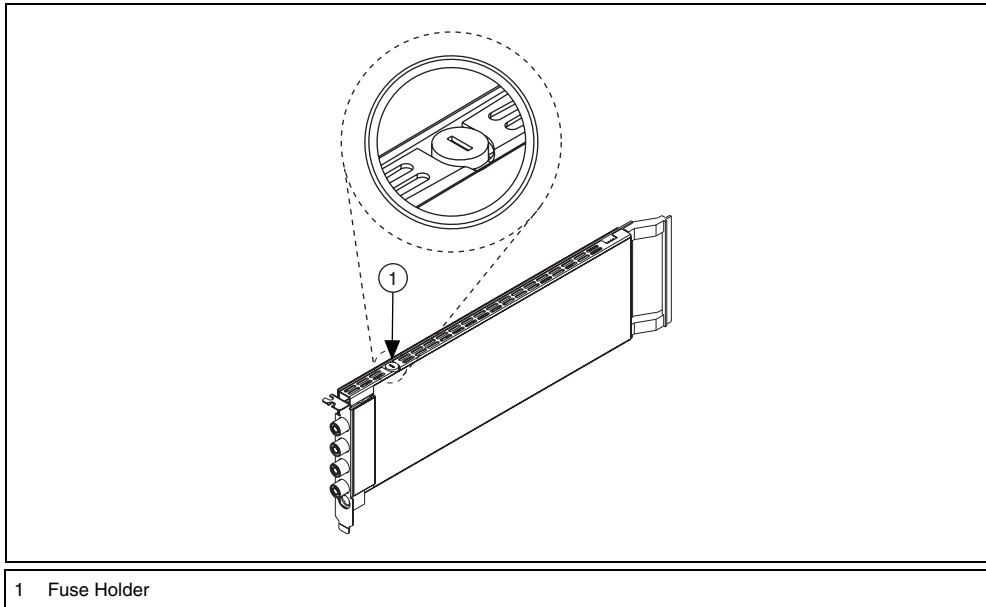

Figure 31. Locating the Fuse on the NI PCI-4070
3. Hold the NI PCI-4070 at the angle shown in Figure 31, and locate the fuse holder.